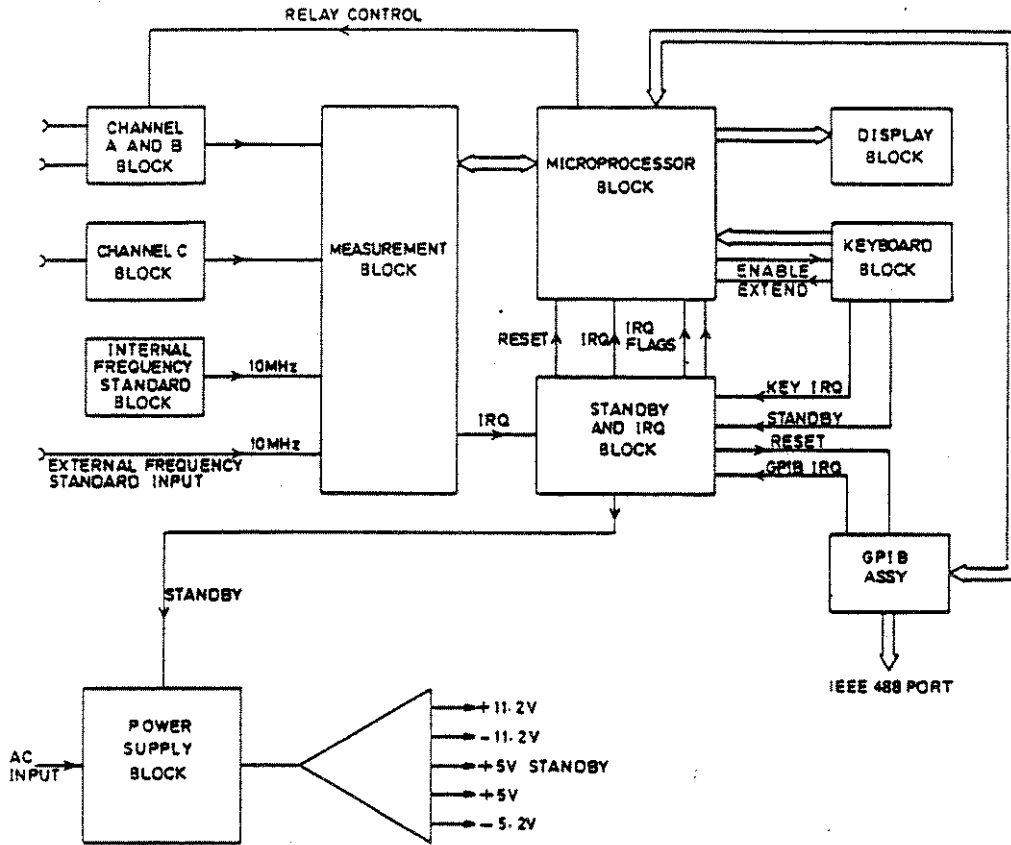

Figure 5.1 - Simplified Overall Block Diagram
**5.1.2**            The theory of operation provided is based on the simplified overall block diagram shown in Figure 5.1. Key circuit blocks of the 1994 are described and supported in this section using simplified block and schematic diagrams. These diagrams supplement the complete schematics found in Section 7 of this manual. As much as possible, the simplified schematic and block diagrams provided here are annotated with the same reference designators found in the complete schematics. This should facilitate cross-referencing between this section of the manual and the schematics.
**5.2.2**            The functional relationship between the blocks of the 1994 is illustrated in Figure 5.1. The measurement block is internally configured by the microprocessor according to the instructions entered via the keyboard or over the GPIB. The signal to be measured and the signal from the frequency standard are fed to the measurement block. The measured result is passed to the microprocessor. If mathematical manipulation of the result is required, this is performed by the microprocessor before the final output is passed to the display or system.